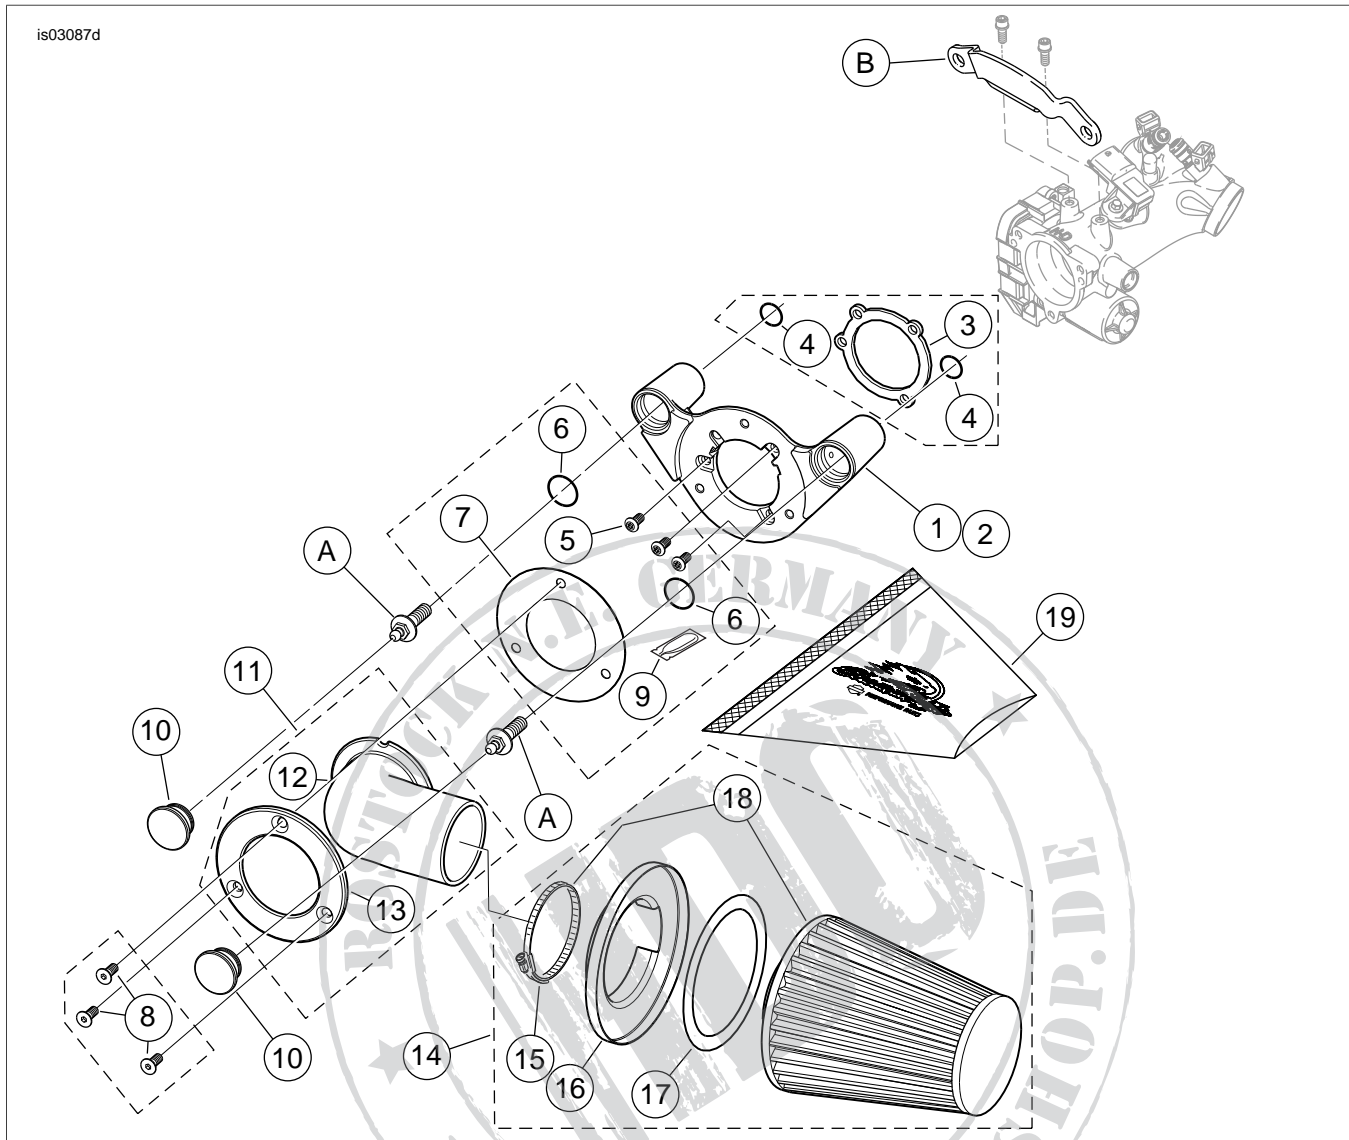

Figure 1. Service Parts: Air Cleaner Kit
See Figure 1 and Table 1.
2. Remove the air cleaner backplate following the instructions in the service manual. Retain the two breather screws (A) removed from the backplate (see Figure 1). The remaining parts can be discarded.
3. See Figure 1. Remove and discard induction module bracket (B).